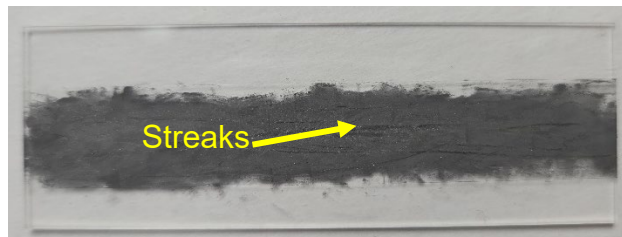

Figure 4. Example sample preparation where the slide has not been completely covered and there are streak marks, indicating uneven material coverage.
- Verify that the tape is completely covered and there are no obvious streaks. If all or part of the focused laser pulse contacts bare tape it will be ablated into the laser-induced plasma and contribute to the plasma dynamics and spectroscopic signal (Figures 4 and 5).
Figure 5. The same slide from Figure 4 but held up to the light to more clearly show the uneven coverage and streak marks where the material has been accidentally scraped off.